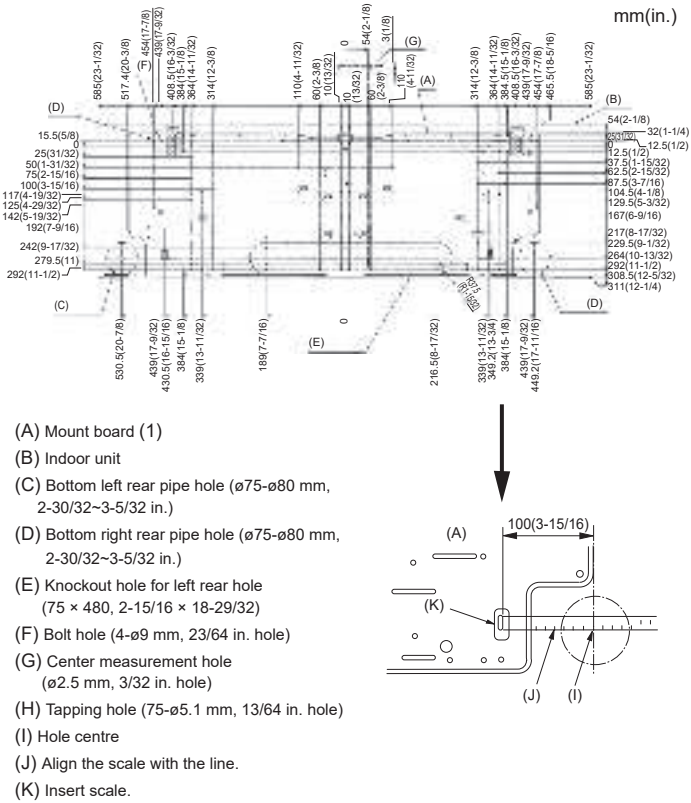

Fig. 3-2
3.2.1. Setting the mount board and piping positions (Fig. 3-2)